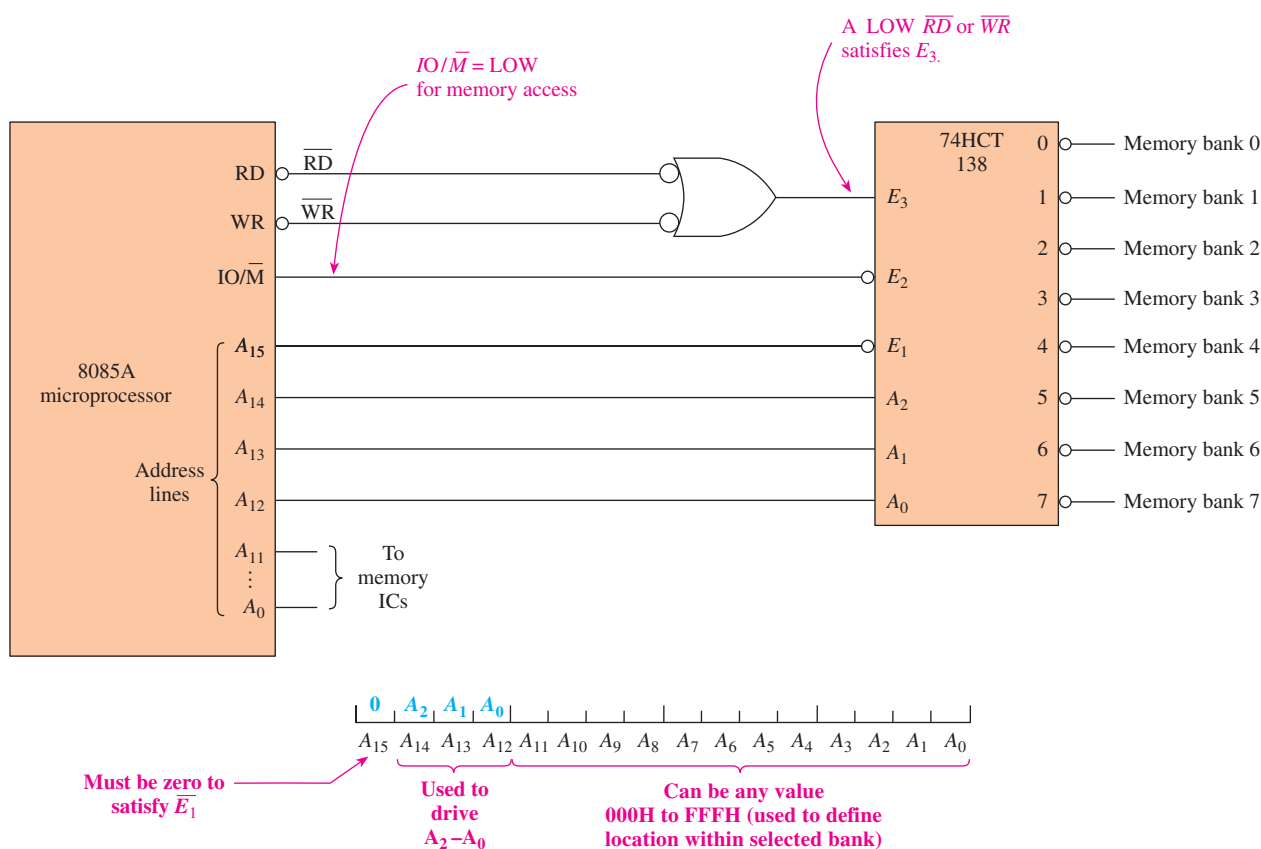

Figure 8-58 Using the 74HCT138 for a memory address decoder in an 8085A microprocessor system.
The 74138 and its CMOS version, the 74HCT138, are popular choices for decoding the address lines in **microprocessor** circuits. A typical 8-bit microprocessor such as the Intel 8085A or the Motorola 6809 has 16 address lines (A_0 – A_{15}) for designating unique **addresses** (locations) for all the peripheral devices and memory connected to it. When a microprocessor-based system has a large amount of memory connected to it, a designer often chooses to set the memory up in groups, called *memory banks*. For example, Figure 8-58 shows a decoding scheme that can be used to select one of eight separate memory banks within a microprocessor-based system. The high-order bits of the address (A_{12} – A_{15}) are output by the microprocessor to designate which memory bank is to be accessed. In this design, A_{15} must be LOW for the decoder IC to be enabled. The three other high-order bits, A_{12} – A_{14} , are then used to select the designated memory bank.
What is the range of addresses that can be specified by the 8085A in Figure 8-58 to access memory within bank 2?
Solution: Referring to the chart in Figure 8-58, address bit A_{13} must be HIGH to make A_1 in the decoder HIGH to select bank 2. The other address bits, A_0 – A_{11} , are not used by the decoder IC and can be any value. Therefore, any address within the range of 2000H through 2FFFH will select memory bank 2.
- 8-19.** In the address decoding circuit of Figure 8-58, the A_{15} address bit must be HIGH to access memory bank 7. True or false?
- 8-20.** What IC would be used to implement the inverted-input OR gate in Figure 8-58: a 7400, a 7402, a 7408, or a 7432?
- 8-21.** To read from memory bank 0 in Figure 8-58, the microprocessor will output _____, _____, and _____ on the RD, WR, and IO/ \bar{M} lines.